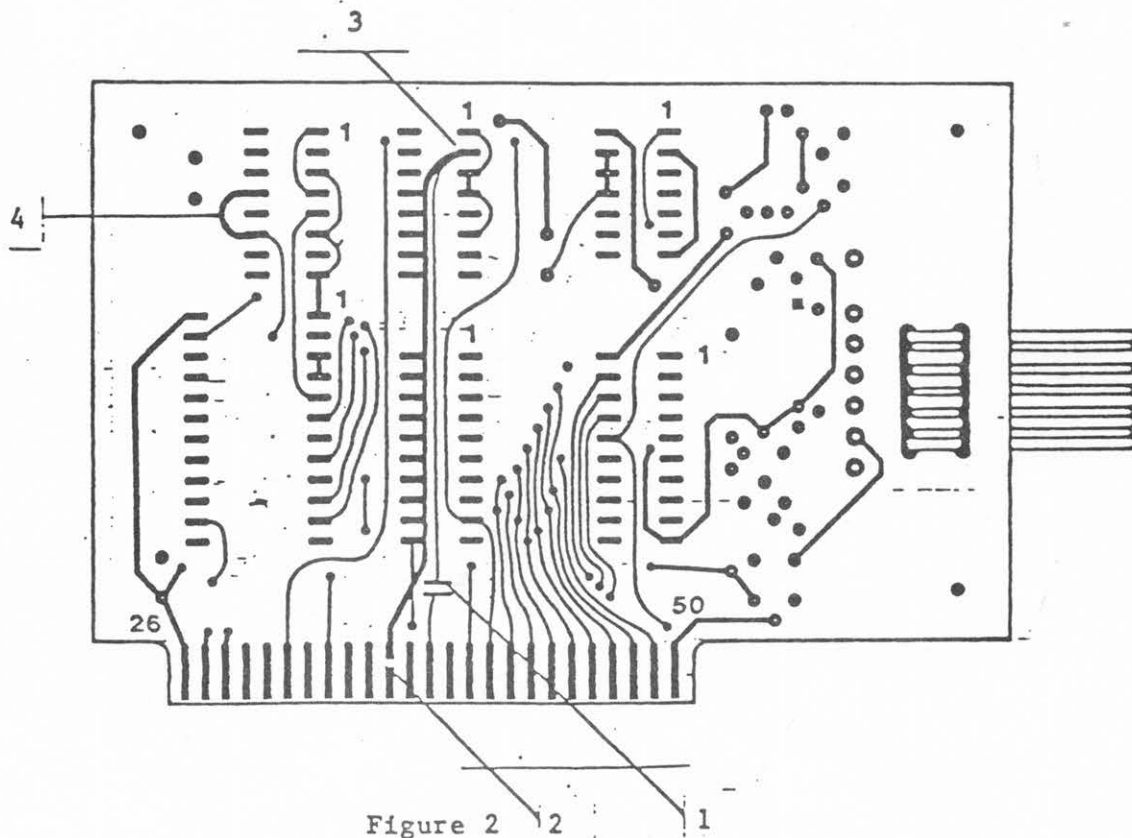

Figure 2
2. Using the scraping tool, cut a gap in the trace (the flat wire "printed" on the card) as shown in figure 2, #1. The trace connects edge connector pin 38 with pin 2 on the back side of the socket in row A, column 2. The gap should be about 3/8 of an inch above where the trace joins the edge connector pin and should be about as big as the trace is wide. Make sure all conductive material is removed from the gap.
3. Solder a piece of wire connecting the top of edge connector pin 36 (figure 2, #2) to pin 2 on the back side of the socket in row A, column 2 (figure 2, #3) where the original trace leads. Do not let solder accumulate on the bottom three quarters of the edge connector pin: these pins must be free to enter the edge connector socket without obstruction.
4. On the back side of the socket in row A, column 1, solder a piece of wire connecting pin 11 to pin 13 (figure 2, #4). From the back side of the card, socket pin numbers increase clockwise, starting from the pin at the upper right (labelled "1").